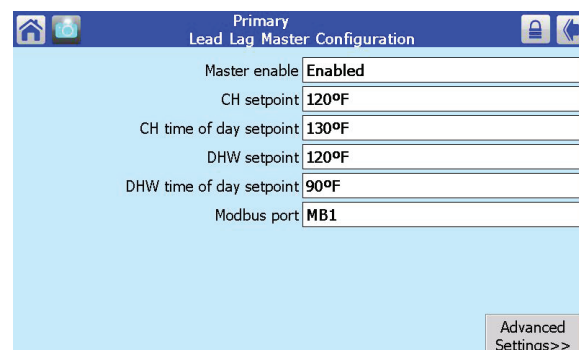

Fig. 58 – Lead/Lag Master Configuration
3. Press the Configure button. The display will present the Lead/Lag Master Configuration Screen (Fig. 58).